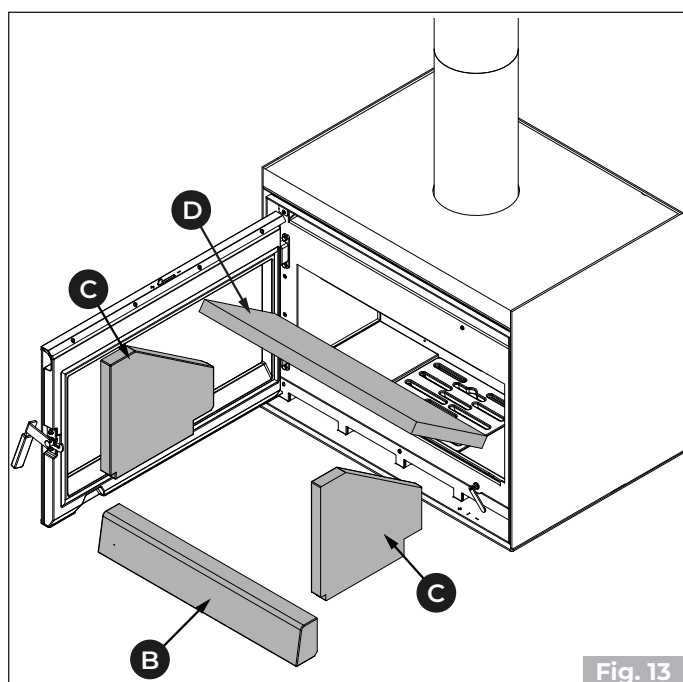
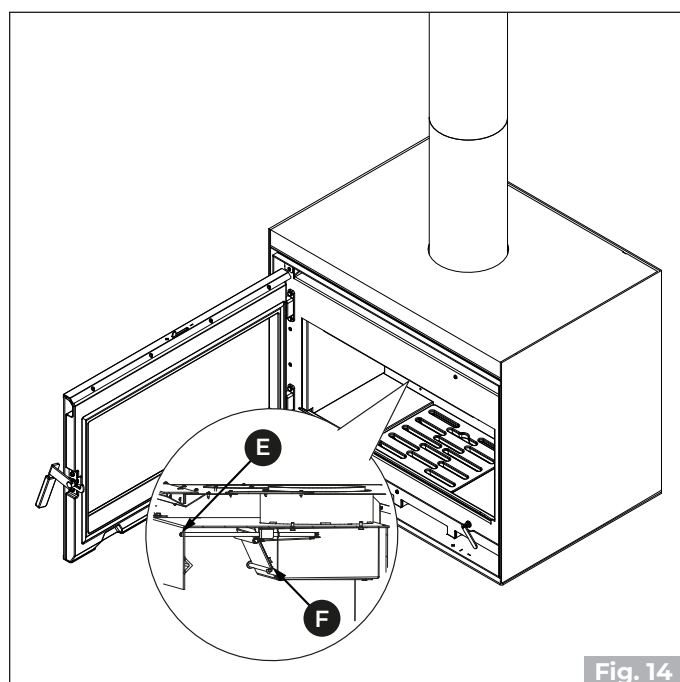

Fig. 13
Fig. 14
The appliance is supplied with the bypass valve (F) already regulated against the box ("Fig. 14"). If the adjustment is not adequate, recalibrate the valve in order to obtain good combustion.
1. Remove in sequence the back wall (B), the side walls (C) and the upper baffle (D) ("Fig. 13").
2. Loosen the screw (E) in order to place the bypass valve (F) against the box ("Fig. 14").
Open the door, Lift the deflector (D) and remove the post-combustion plate (A) (Fig. 13). Remove, in this order, the back wall (B), the side walls (C) and the upper deflector (D) (Fig. 14) (section "Adjusting the bypass valve".)